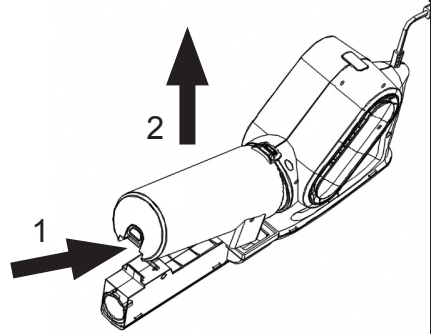

Fig.3
- Open the lid of the dust box. (Fig.3).